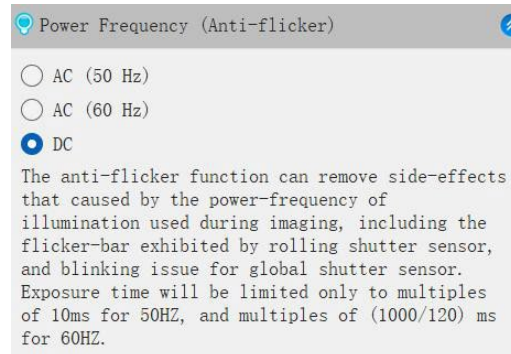

Figure 5-11 Example of ALTRAvIEW LITE Light Source Frequency (anti-Flicker) Control Panel
The ALTRAvIEW LITE light source frequency control panel is used to switch between AC (50Hz), AC (60Hz) and DC (DC) light source frequencies, as shown in Figure 5-11. It should be noted that the selection of light source frequency will affect the value of exposure time, and the relevant information is described in the text at the bottom of the panel.